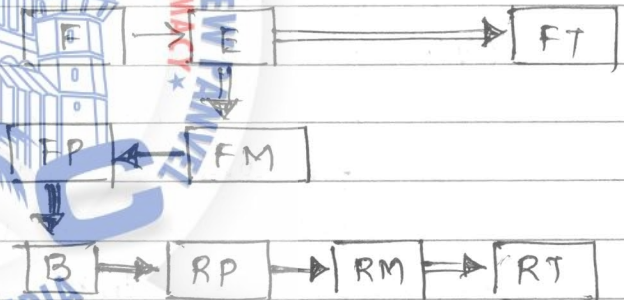

fig 5f Mode 6 axial balancing
- Mode 6: A unique operating mode of complex hybrid system is axial balancing. In this mode (fig 5f) if the front wheel slips, the front EM works as a generator to absorb the change of ICE power. Through the battery, this power difference is then used to drive the rear wheels to achieve the axle balancing.